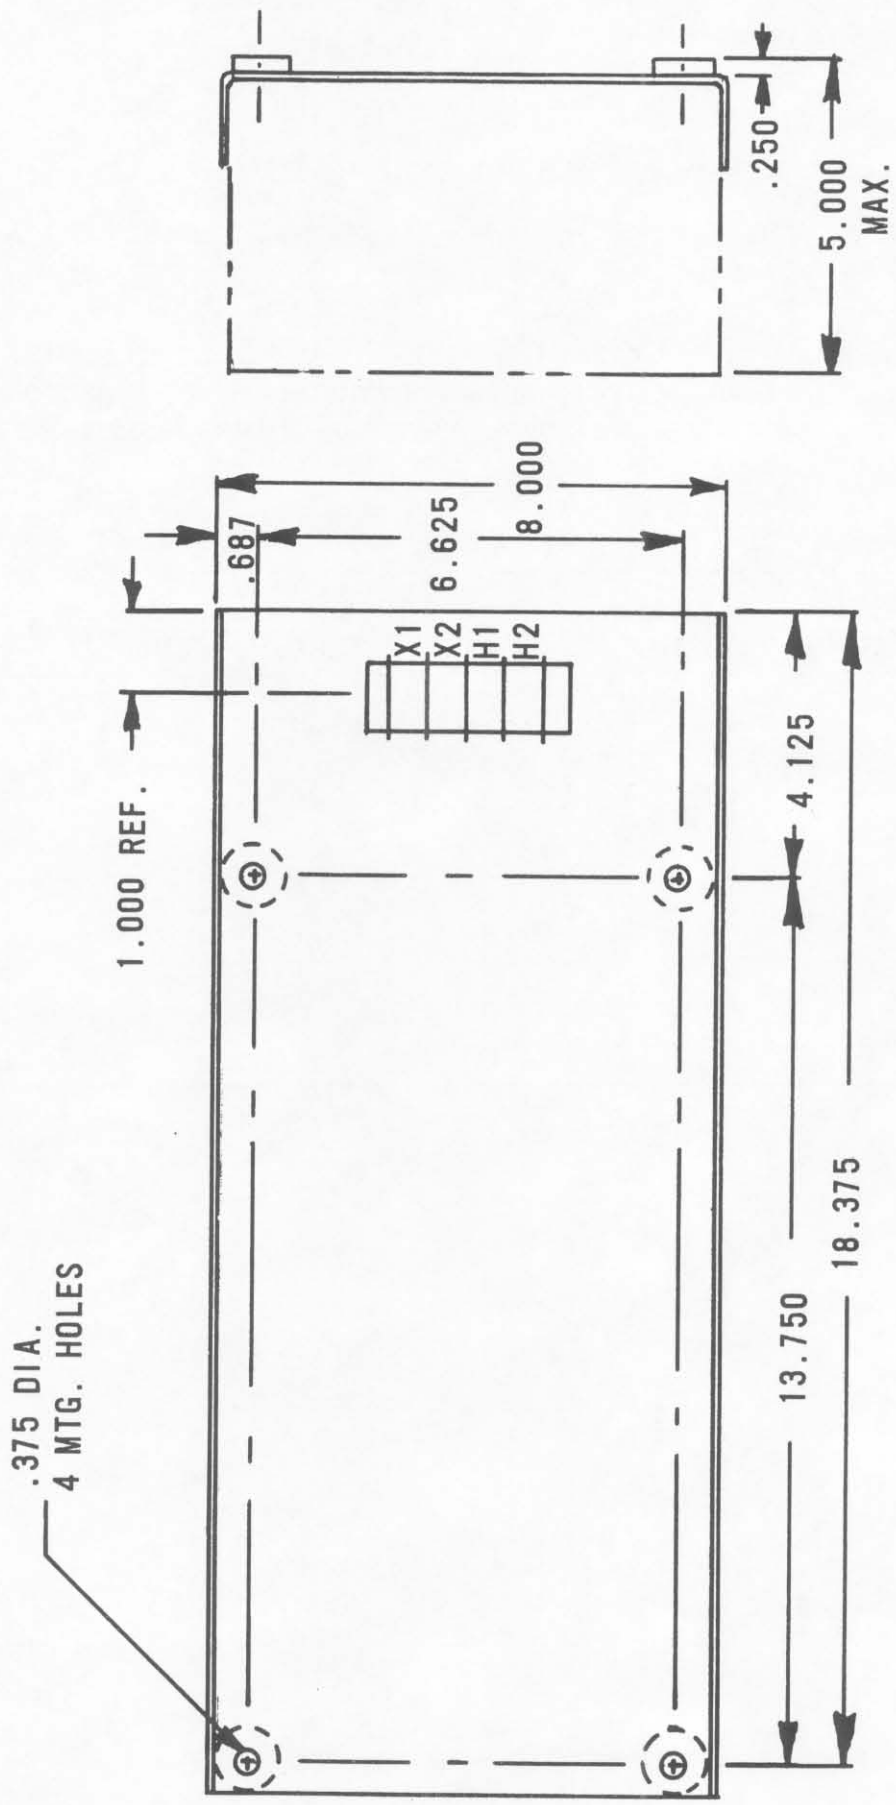

FIGURE 2 OUTLINE DRAWING
1.3.1 The SBO is a static type unit consisting of transformers, resistors, surge suppressors and capacitors. All components of this units, except the current transformer (CT), are mounted on a pan type sheet metal chassis (reservoir assembly). The CT is mounted externally and interconnected with the reservoir assembly. An outline drawing of the reservoir assembly is shown in Figure 2, and the outline drawing of the applicable CT's are shown in Figure 6.
3.1.1 The reservoir assembly and the current transformer can be mounted in any position. An outline drawing of the reservoir assembly, with overall and mounting dimensions is shown in Figure 2.